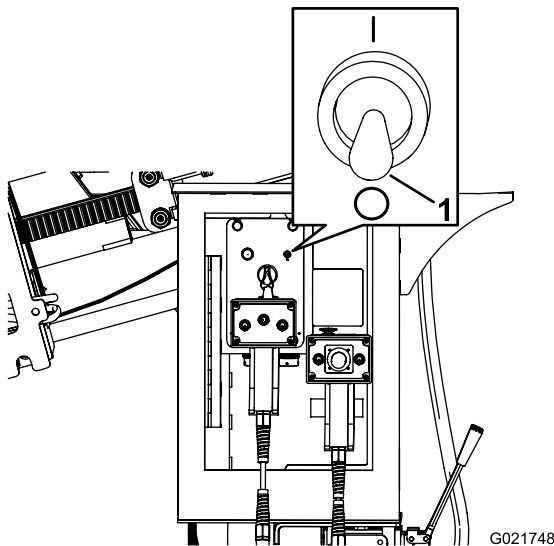

Figure 153
2. Ensure that the spray-hose attachment switch is in the Off position (Figure 153).